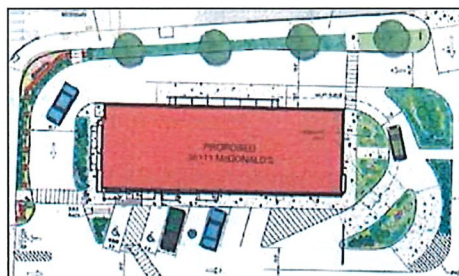

Figure 14: Models of Acceptable Landscaping around Drive-through Lanes and Equipment
(2) Drive-through menu boards and order box equipment shall incorporate landscaping at the base of the equipment located within a defined landscape bed.
(3) The landscaping used shall consist of a combination of dwarf trees, shrubs, flowering plants, ornamental grasses and live ground covers of various heights and textures, designed to provide year-round, seasonal interest.
(4) The overall landscape design and effect shall be consistent with depictions provided below in Figure 14. Final site design plans and landscaping for any drive-through lane shall receive Design Review and Approval in accord with §151.215.